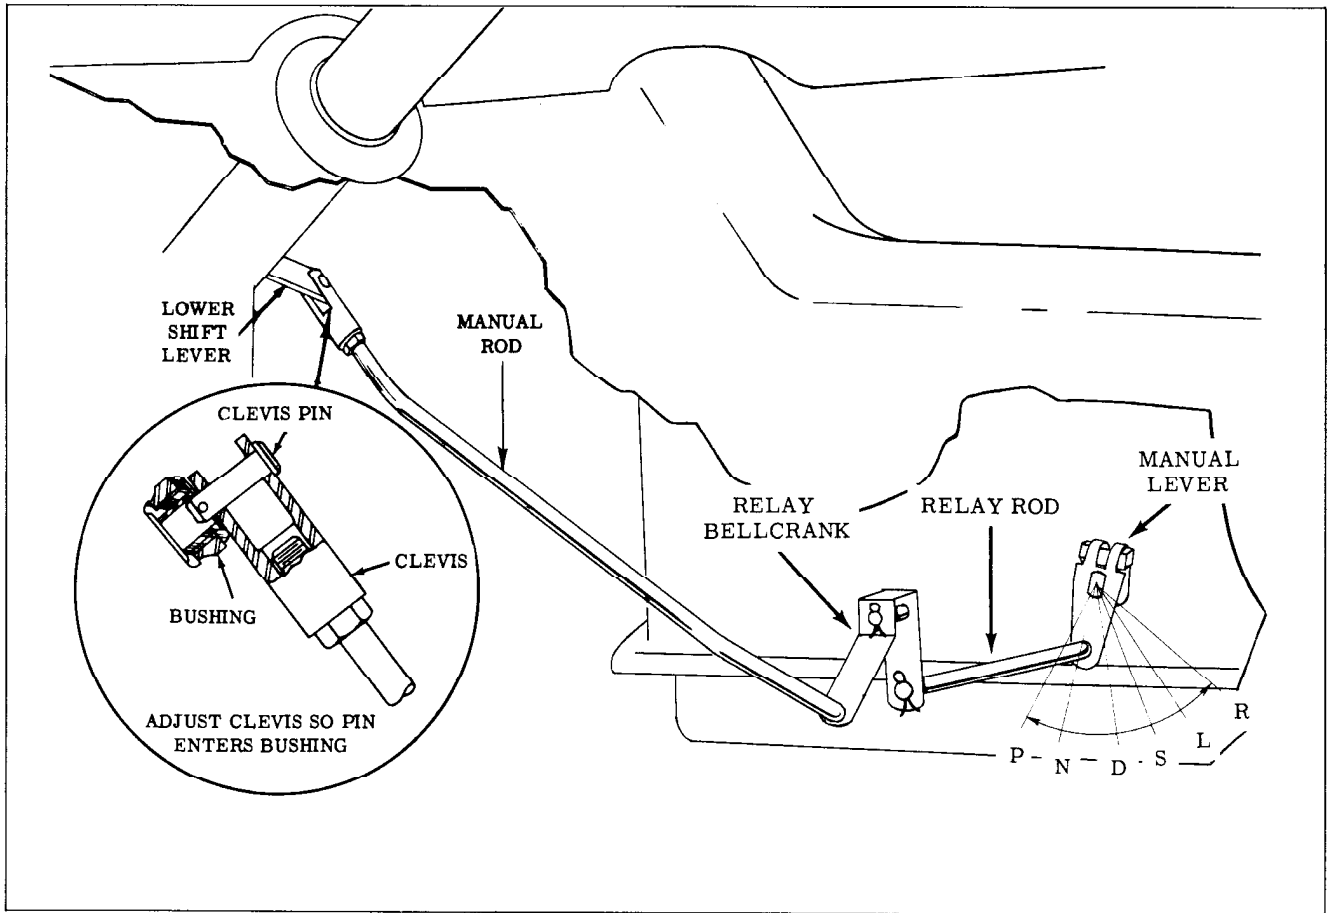

Fig. 3-141 Manual Lever Adjustment
4. Adjust manual rod end so pin will enter approximately 1/8" into lower shift lever bushing with selector lever against stop. (Fig. 3-141)